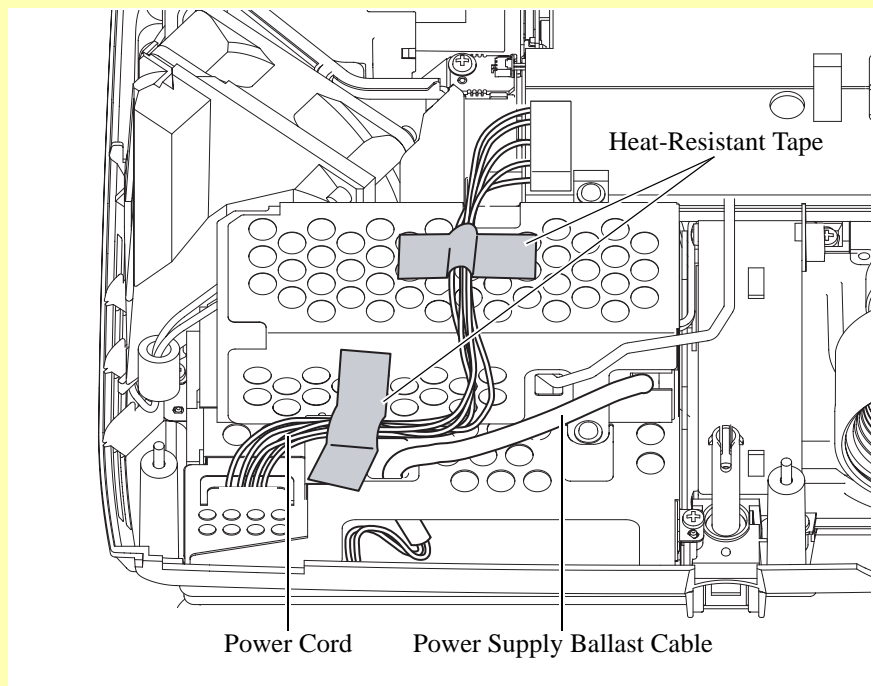

Figure 4-20.
- 4). Route the power cord as shown in Figure 4-20, and secure the cable with a heat-resistant tape. Gently squeeze the Power Supply Ballast Cable into the Power Supply Unit.